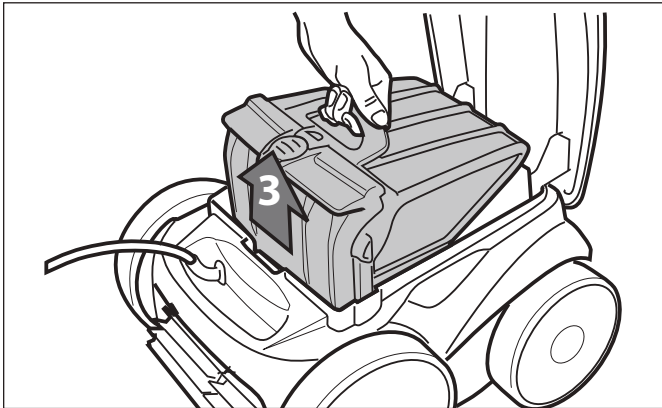

Figure 24. Remove Filter Assembly
6. Remove the filter assembly from the body (3), as shown in Figure 24.